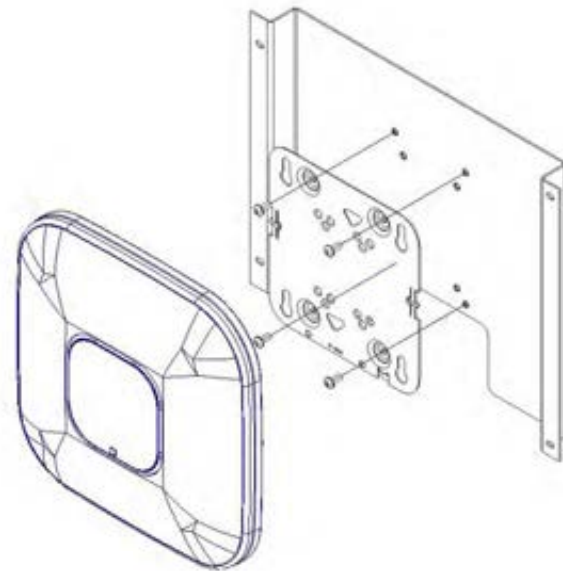

Figure 1
Step 1 – Install the mounting plate onto the mounting bracket using the (4) # 8-32 screws. The triangle cutouts of the mounting plate should face toward the cutout on the bracket. Slide the access point onto the mounting plate using the feet to lock it in place (Figure 1).